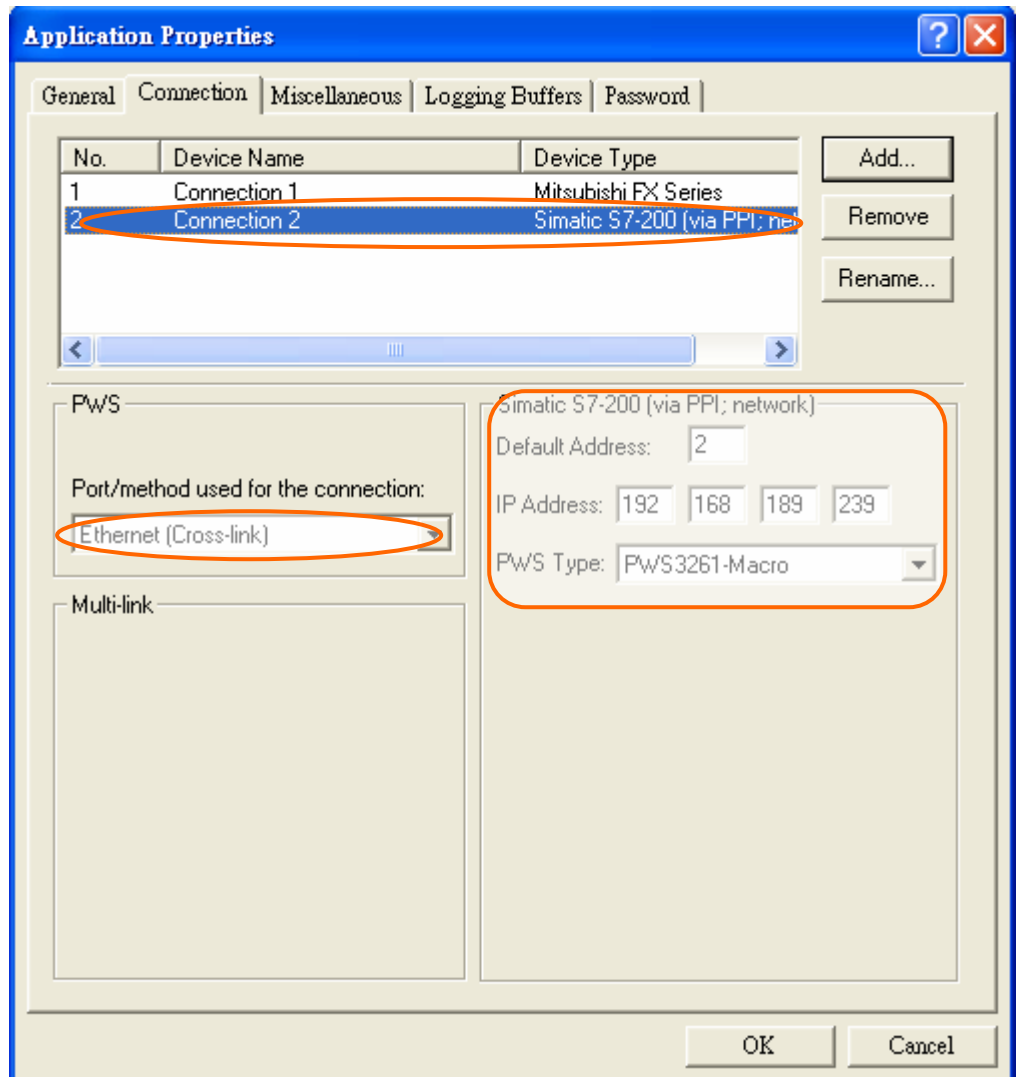

Figure 216. Add Cross-link Device
- (ii) To set up Cross-link on the [Connection] tab; See Figure 216.
Note : PLC register [2/C0] refers to Connection No. 2 on the [Connection] tab. See Figure 216. [/] means the separation from register address.